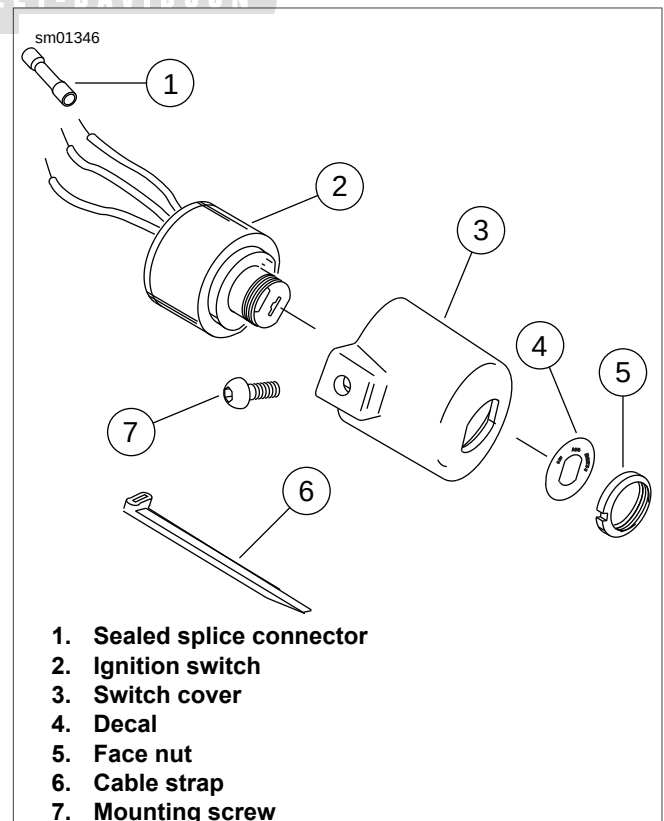

Figure 6-24. Ignition Switch
5. See Figure 6-24. Remove ignition switch face nut (5).
6. Remove mounting screw (7). Remove switch cover (3). Remove switch (2) from switch cover (3).
4. See Figure 6-24. Insert ignition switch into hole of switch cover. The word "TOP" stamped on the switch body should face upward toward the lettering on the switch position decal. Loosely install face nut (5).
5. Install mounting screw (7). Tighten to 35-45 in-lbs (4.0-5.1 Nm).
6. Tighten face nut (5) to secure switch (2) within cover (3).
7. Using **new** cable strap (6), secure ignition switch harness to wire harness caddy.